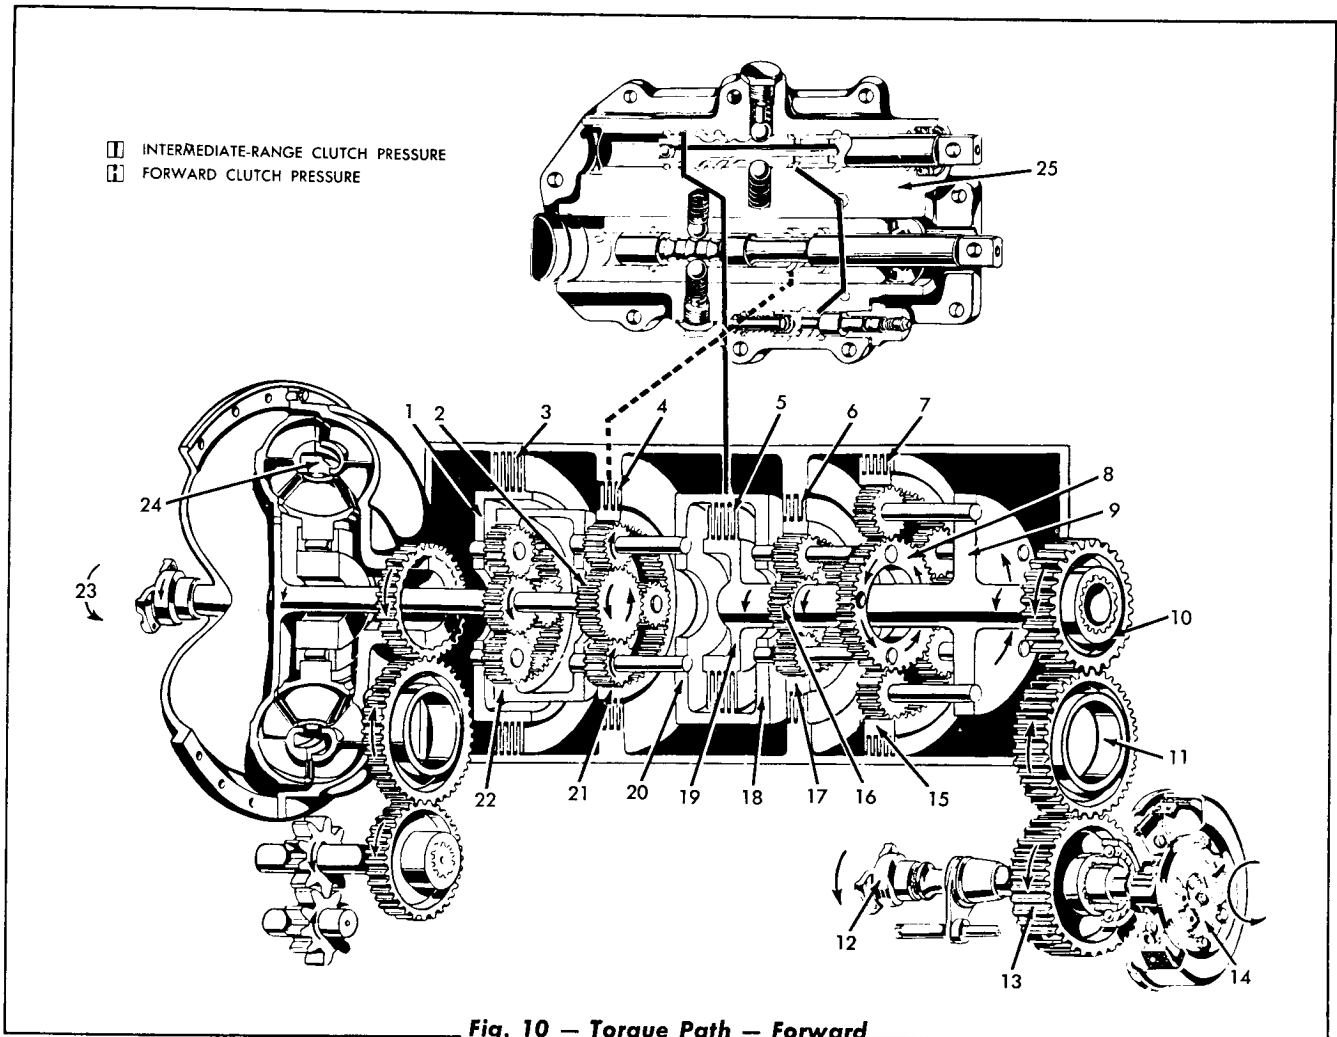

Fig. 10 — Torque Path — Forward Intermediate Range
4. Intermediate-Forward Range Torque Path (Fig. 10)